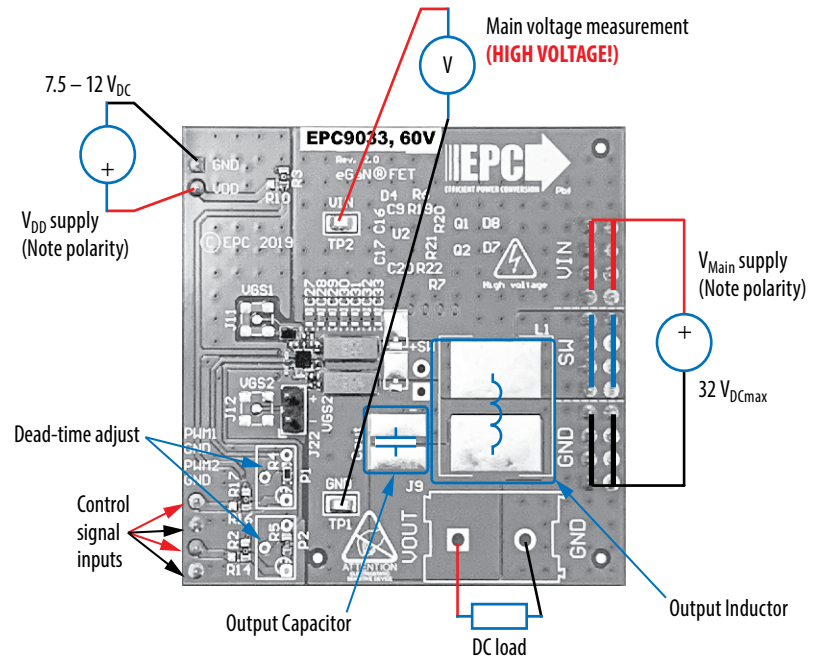
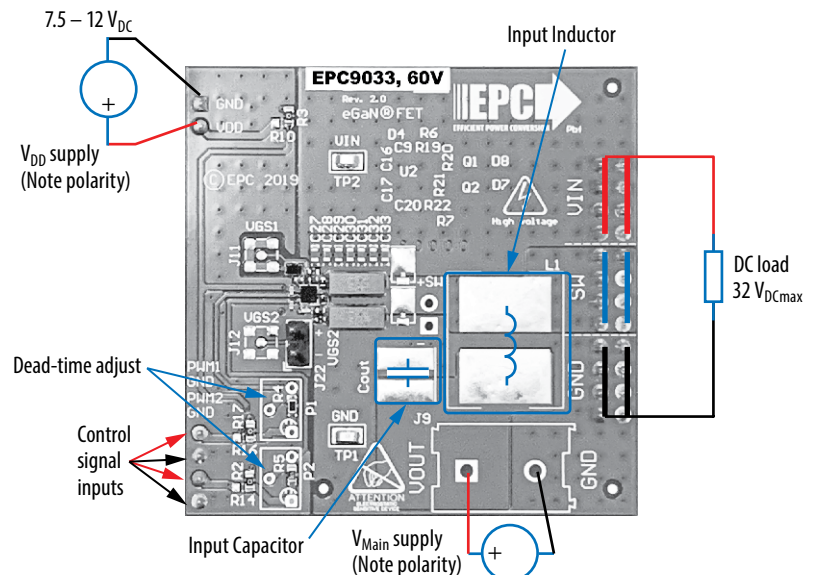

Figure 2: Buck configuration
Figure 3: Boost configuration
The half bridge development board EPC9033 is easy to set up as buck or boost converter. Refer to figure 2 for buck converter configuration and measurement setup, and figure 3 for boost converter setup, and follow the procedure below:
2. With power off, connect the switch node (SW) of the half bridge to your circuit as required (half bridge configuration). Or use the provided pads for inductor (L_1) and output capacitors (C_{OUT}), as shown in figure 2 with a DC load connected across V_{OUT} and GND.
1. The inductor (L_1) and input capacitors (labeled as C_{out}) can either be soldered onto the board, as shown in figure 3, or provided off board. Anti-parallel diodes can also be installed using the additional pads on the right side of the EPC2020 FETs.